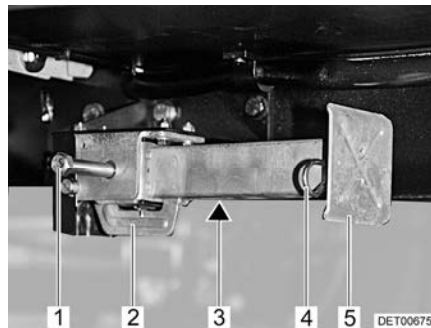

Fig. 48 Steady leg
- Place the socket spanner on the hexagon nut (Fig. 48,1) and rotate until the steady leg is in a perpendicular downward position.
- If the length of the steady leg can be adjusted, remove the splint (Fig. 48,4) out of the support foot extension (Fig. 48,5).
- Place the socket spanner on the hexagon nut (Fig. 48,1) and rotate until the steady leg is clear of the ground.
- Push in the support foot extension (Fig. 48,5) and insert the splint (Fig. 48,4) in the drilled hole in the support foot extension.
- Rotate the hexagonal nut (Fig. 48,1) until the steady leg has swung upwards and the guide (Fig. 48,2) has reached the very end of the slot (Fig. 48,3).